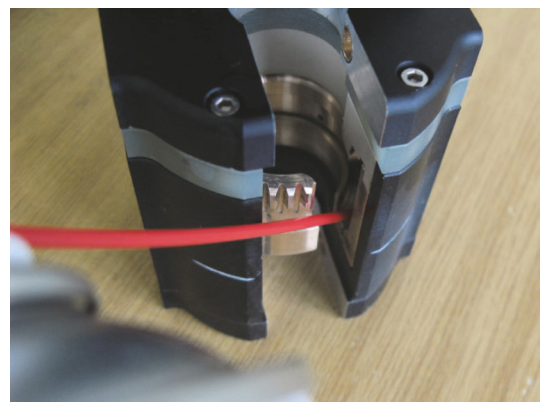

Fig. 9 Spray current/cooling contact surface with quick cleaner
9. Spray quick cleaner onto the current/cooling contact surface of the gear wheel (rotor) (Fig.9). Then rotate the gear wheel (rotor) through 360° to flush out contamination.